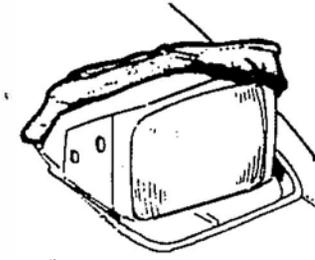

figure 18
3.2 Stretch the elastic of the "shower cap" cover over the rear edge and the corners of the headlight unit. Making sure that the vinyl fully overlaps the rolled sheetmetal edges to allow free movement of the headlight door, stretch the cover over the front edge and corners as shown in figure 18. Be sure the headlight's face is exposed. When properly installed, the headlights will raise and lower without interfering with the normal movement of the headlights, and the headlight covers will not shift from their original position.